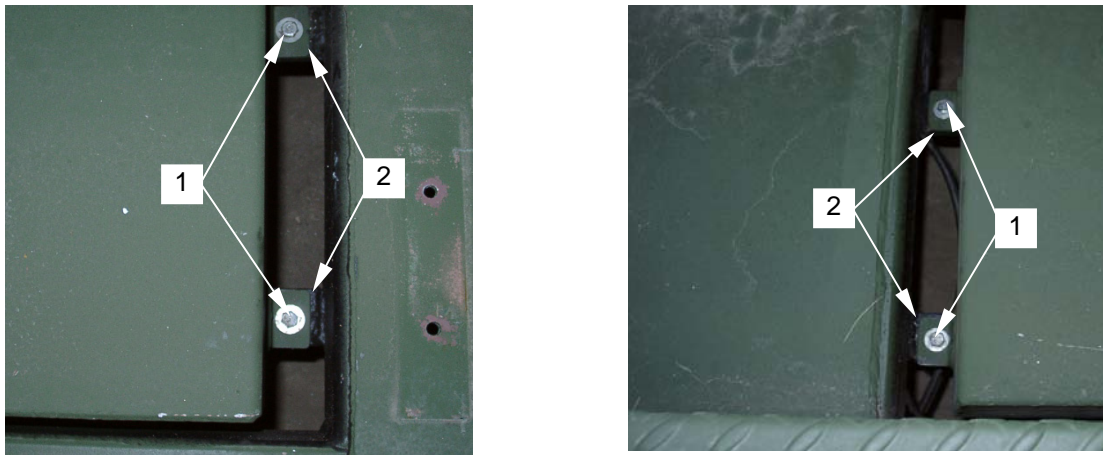

Figure 2. Removing Hardware
4. Remove the hex bolts and flat washers (**figure 2, item 1**) securing the fuel tank to the fuel tank brackets (**figure 2, item 2**) on the trailer frame. Recover hex nuts and flat washers from below the brackets (**figure 2, item 2**). Retain hardware.